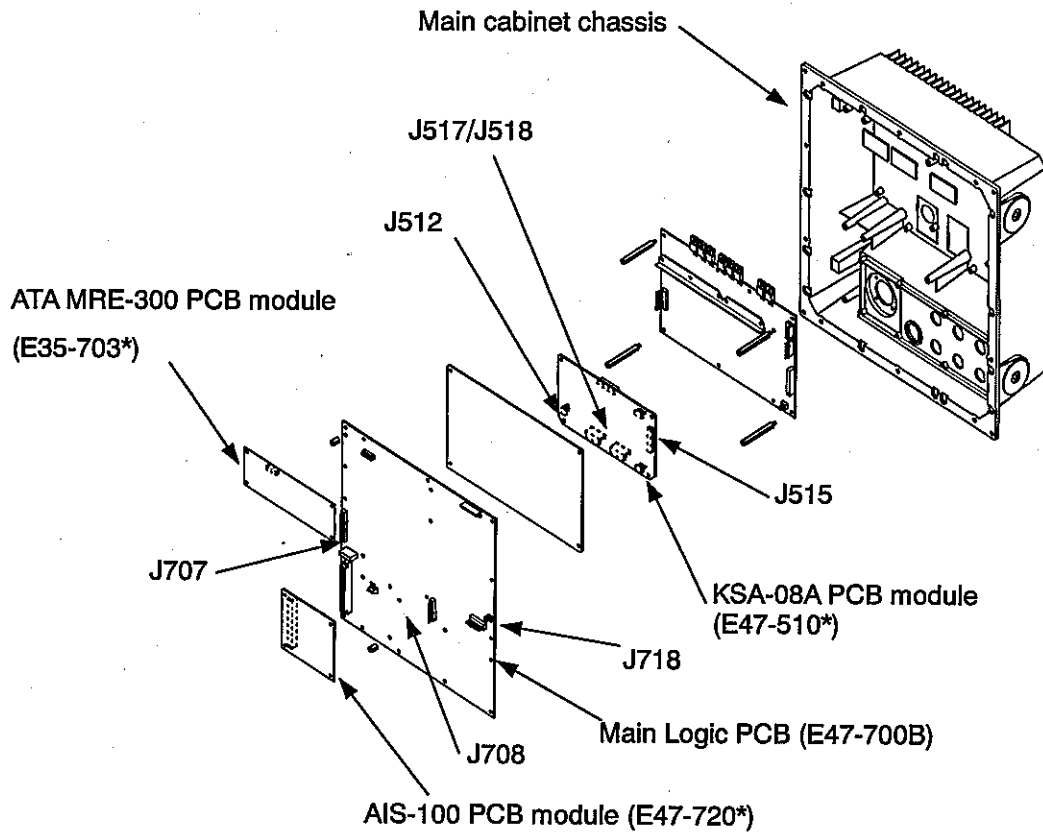

Figure A.2 Fitting ATA, AIS and Gyro Interface modules into Main Logic PCB
- (1) Dismount the Main Logic PCB E47-700* disconnecting cables connected to the PCB.
- (2) Unscrew the four 3 mm fixing screws on the corner of the Power PCB E47-600*. The four screws will be used for fixing the Gyro Interface chassis.
- (3) Locate the position of the four fixing studs at the corner on the Power PCB prepared for the KSA-08A module. (Refer to the figure A.2)
- (4) Put and fix the KSA-08A module chassis with E47-510A PCB on the studs using the four 3 mm fixing screws and connect cables to connector J708 on the backside of the Main Logic PCB. (Refer to the figure A.2)
- (5) Fix the Main Logic PCB E47-700* at the position again.
- (6) Reconnect the cables to the connectors J707 and J718 on the topside of the Main Logic PCB. (Refer to the figure A.2)